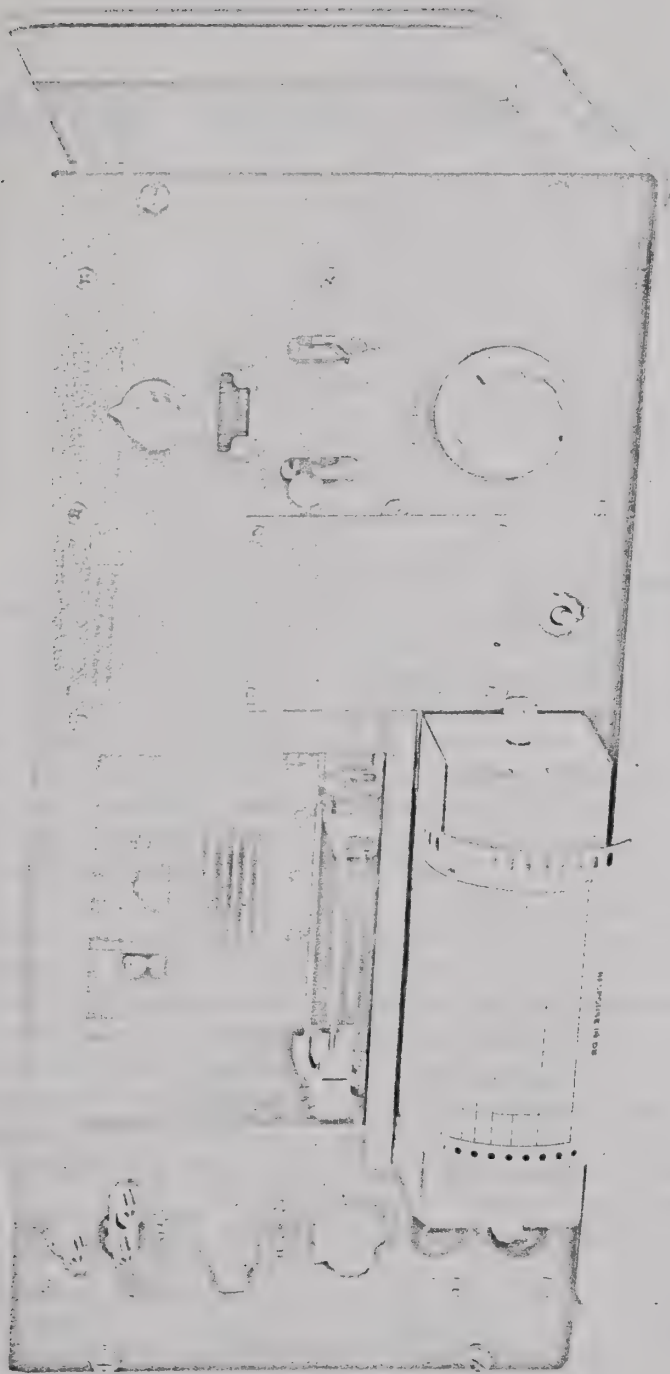

Figure 1.1. Type 1521-A Graphic Level Recorder.
E. The Type 1521-A Graphic Level Recorder (Figure 1.1) produces a permanent ink record of ac voltages, at frequencies from 20 cps to 20 kc, which is proportional to the logarithm of the input level, and hence linear in decibels, when the recorder is set up to drive the external oscillator, it automatically plots frequency, yielding a permanent record with minimum effort. The translucent paper permits one recording over another for comparison. The width is four inches.